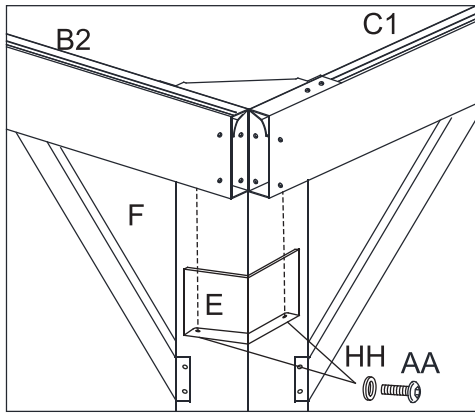

Figure 6.1
6.1 Attach Lintel Cover - Corner (E) to the Lintels (B1 and C2) and Lintels (C1 and B2) with Bolts (AA) and Washers (HH). See Figure 6.1.